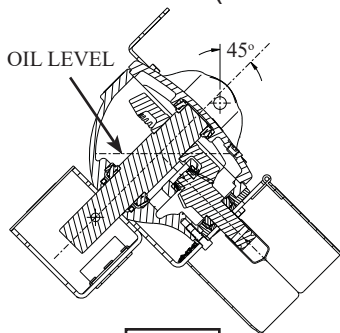

FIG. 4
STEP 7: Remove the fill plug at the top of the gearbox, and fill the gearbox with two quarts of multigear lubricant EP SAE 140 (or EP SAE 85W/140) **before operating the gearbox**. Tip the gearbox 45 degrees (avoid pinch points as gearbox pivots), and check the level at the plug (see FIG 4). **DO NOT OVERFILL!** Replace the plug before operating the digger.